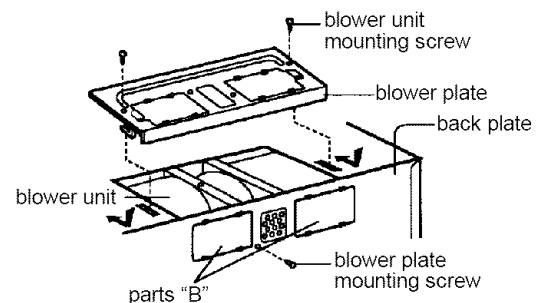

Figure 21
5. Reattach blower plate to microwave oven. Attach with the one blower unit mounting screw and then the one or two blower plate mounting screw(s). See Figure 21.